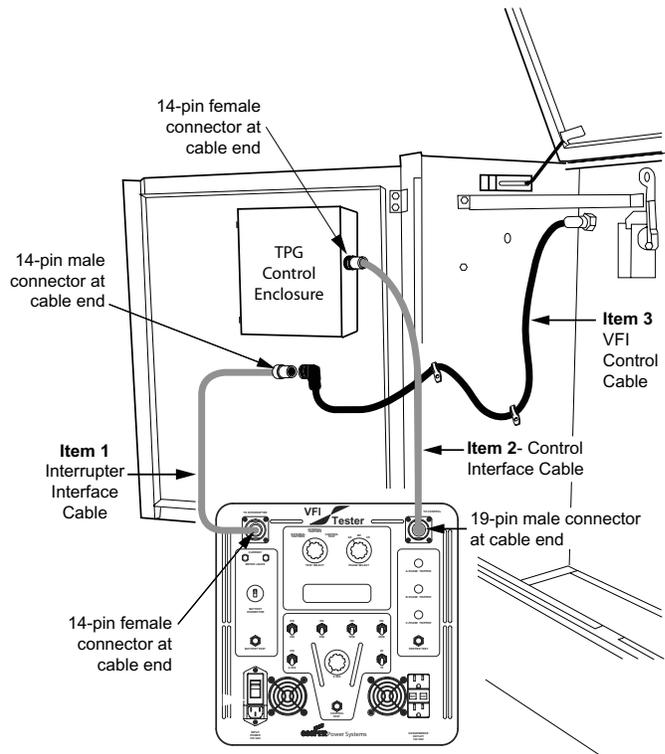

Figure 4. Connection of the VFI Tester to side-hinged VFI units with TPG controls.
3. Connect the 14-pin female/14-pin male interrupter interface cable (Item 1) to the VFI Tester at the interrupter port. Refer to Figure 4 for steps 3 through 8.
3. Disconnect the 14-pin female connector end of the tester control interface cable (Item 2) from the TPG control enclosure. Refer to Figure 4 for steps 3 through 8.